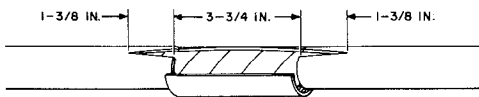

Fig. 4—Cable Sheath Removal
- (2) Remove the sheath and underlying metal layers (Fig. 4).